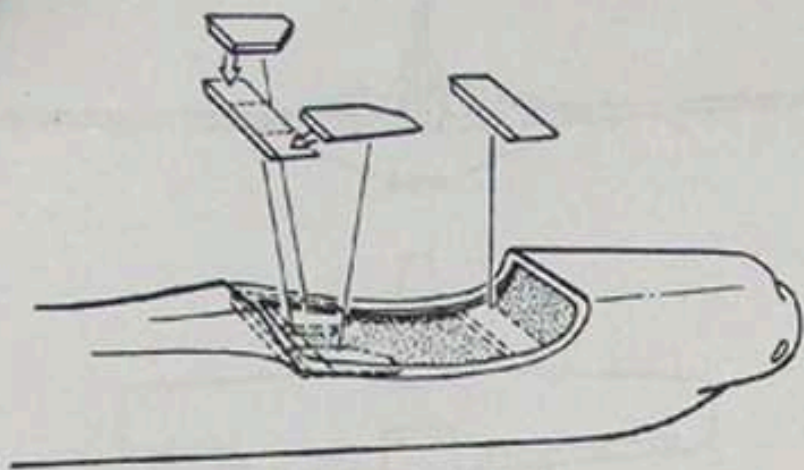
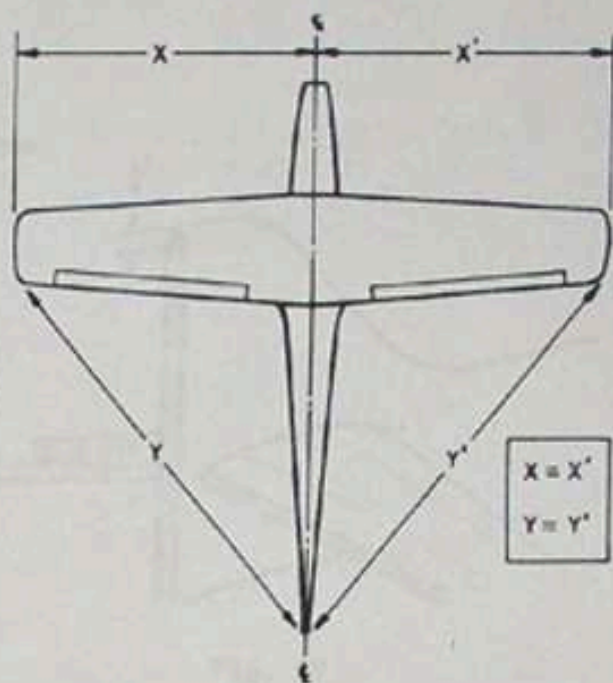
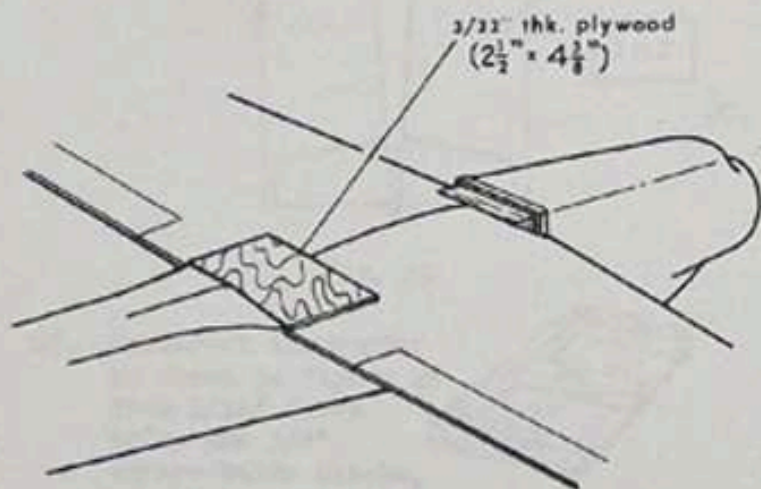
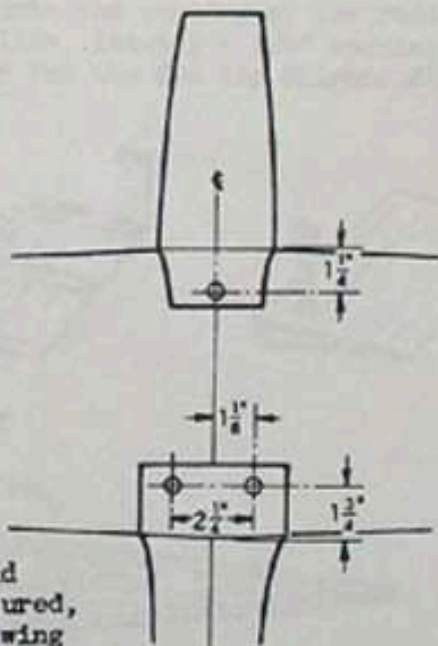

Fig. 22
Fig. 23
Fig. 24
Fig. 25
25. Glue the plywood wing mounting blocks in place with slow-drying epoxy as indicated in figure 22. Lay wing into fuselage saddle and align as in figure 23. Glue fuselage fairings onto wing as in figure 24. Using a mixture of 5-minute epoxy and micro-balloons, build up the front fairing. When cured, sand to contour with fuselage. Check alignment of wing again, then drill holes for 5/32" I.D. arrow shaft bolt guides through wing using sharpened brass tubing. Figure 25 gives location dimensions. Cut bolt guides from fiberglass arrow shafts and epoxy in place. Check alignment a third time, making absolutely sure that it is correct. Drill through bolt guides into plywood wing mounts, tap holes and bolt wing to fuselage using 1/4-20 x 2" long nylon bolts.